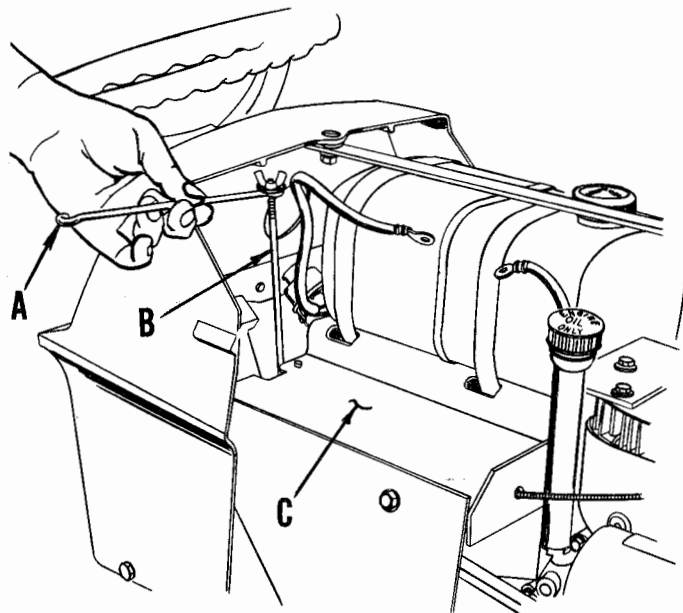

FIG. 3
2. Lift cowling, refer to Fig. 6. Assemble clamp (A), to one of two battery bolts (B). Flat washer and wing nut above clamp as shown in Fig. 3. Hook the bolt into rear of battery support (C), and turn clamp to the side as shown to allow positioning of battery. Bolt, clamp, washer and wing nut shipped in plastic bag located beneath cowling. Battery installation continued on page 6.